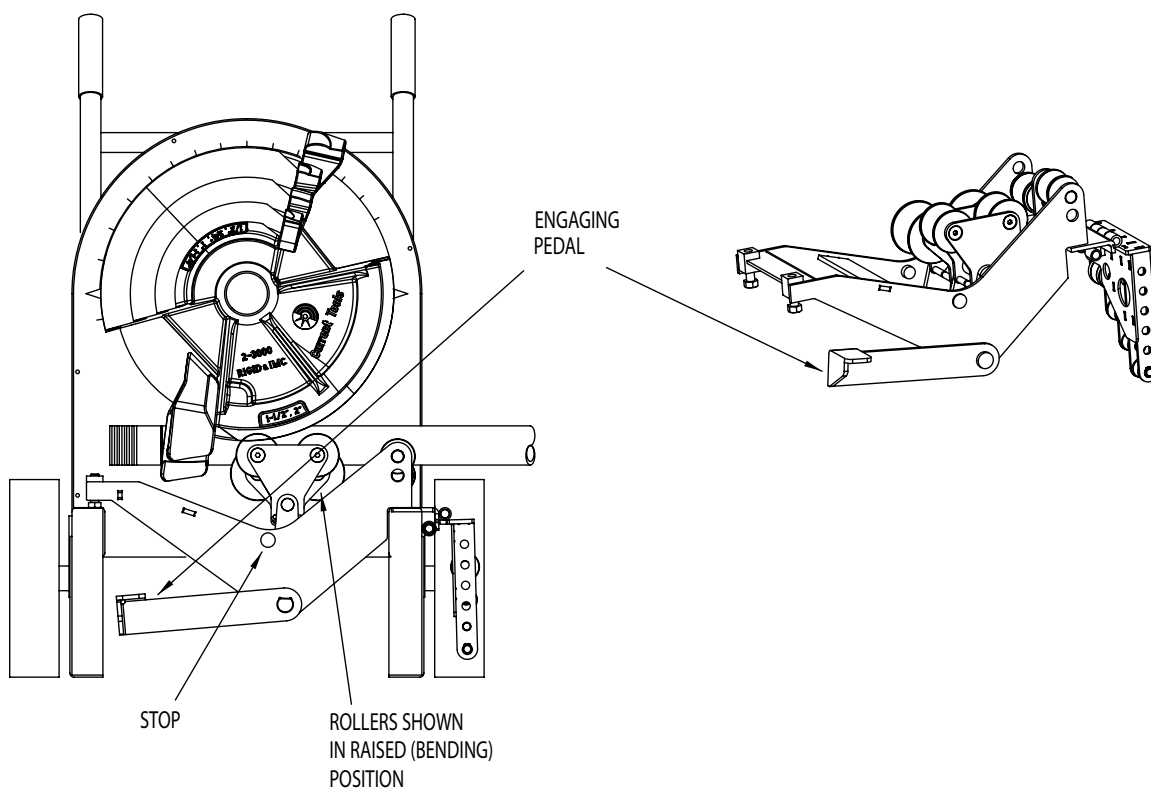

Figure 15
5. Step on the "Engaging Pedal" which will raise the rollers to come in contact with the conduit. See Figure 15. Be sure the correct rollers for the size conduit being bent are in position to engage the conduit.